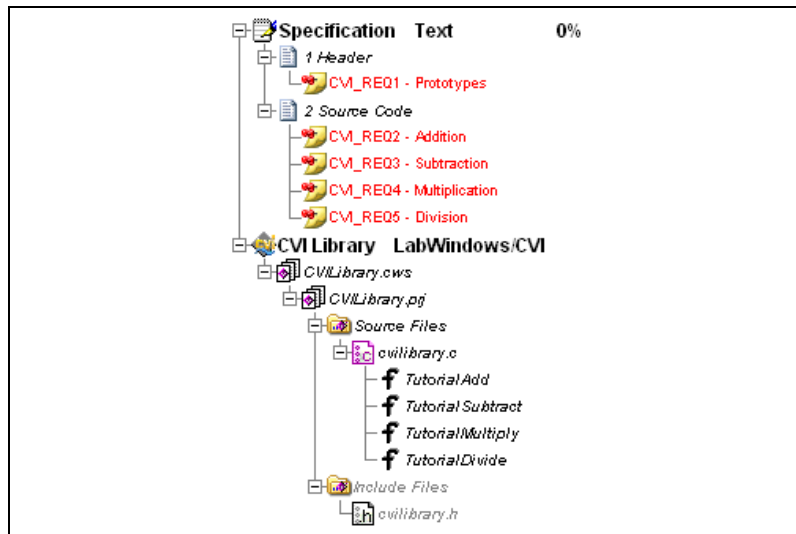

Figure 9-1. LabWindows/CVI Document Expanded in the Management View
16. Expand the two documents in the Management View, as shown in Figure 9-1. Requirements Gateway displays the LabWindows/CVI workspace under the CVI Library document.